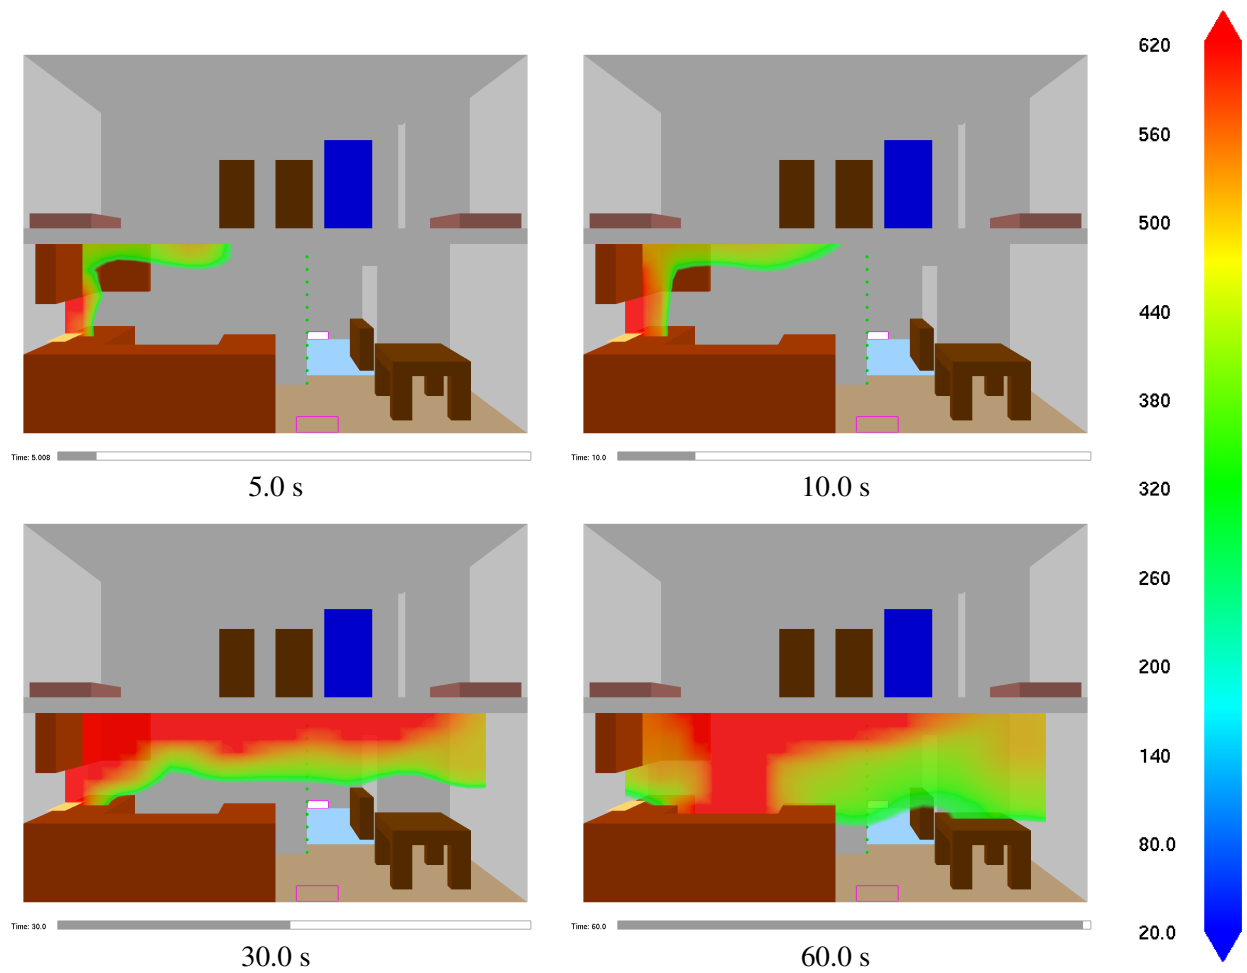

Figure 6.3: Ceiling jet visualization created by *chopping data* below 360 °C using the Bounds dialog box as illustrated in Fig. 6.2.
6.2 were used to generate the ceiling jet visualized in Fig. 6.3. Data values less than 360 °C are chopped or not drawn.